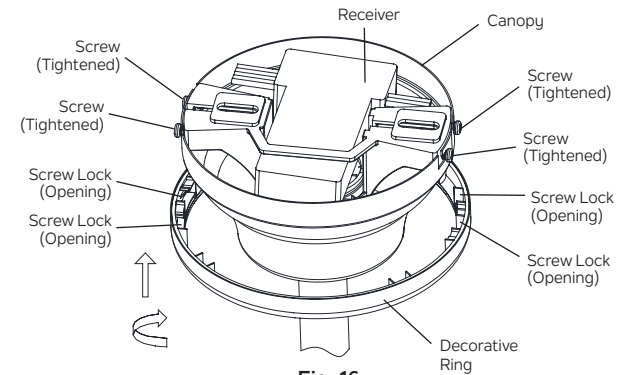

Fig. 16
**Step 5.** Carefully raise the decorative ring up to the top of the canopy. **(Fig. 16)**
**NOTE:** The decorative ring will slide up into position when aligned with the screw heads on the ceiling mounting bracket. Align the openings in the top of the screw locks (2 on each side of the decorative ring) with the 2 screw heads on each side of the ceiling mounting bracket. **(Fig. 16)**
Carefully turn the decorative ring (clockwise) until it locks into position on the screw heads. **(Fig. 16)**.